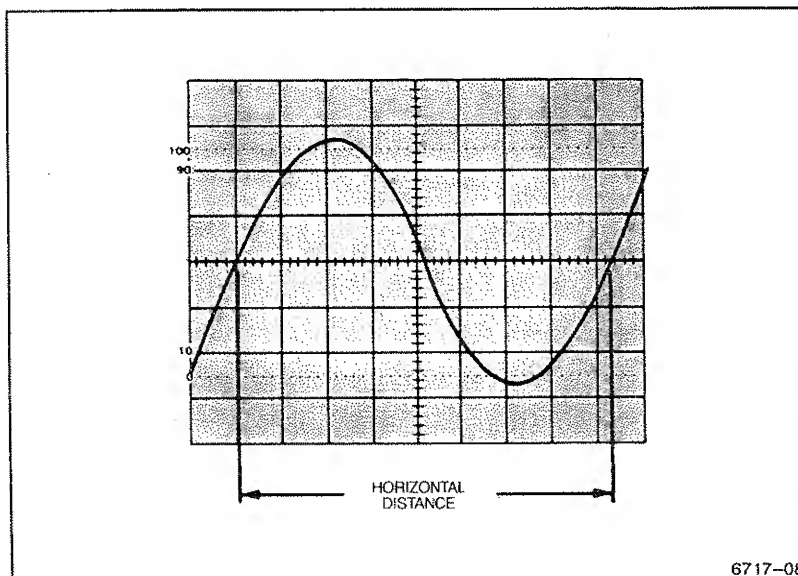

Figure 3-5. Measuring time duration.
4. Position the display to place the time-measurement points on the center horizontal graticule line (see Figure 3-5).
**EXAMPLE.** In Figure 3-5, the distance between the time measurement points is 8.3 divisions, and the SEC/DIV setting is 2 ms per division, HORIZONTAL MAG is set to X1.
**EXAMPLE.** The signal in Figure 3-5 has a period (T) of 16.6 ms. Calculating frequency (f):